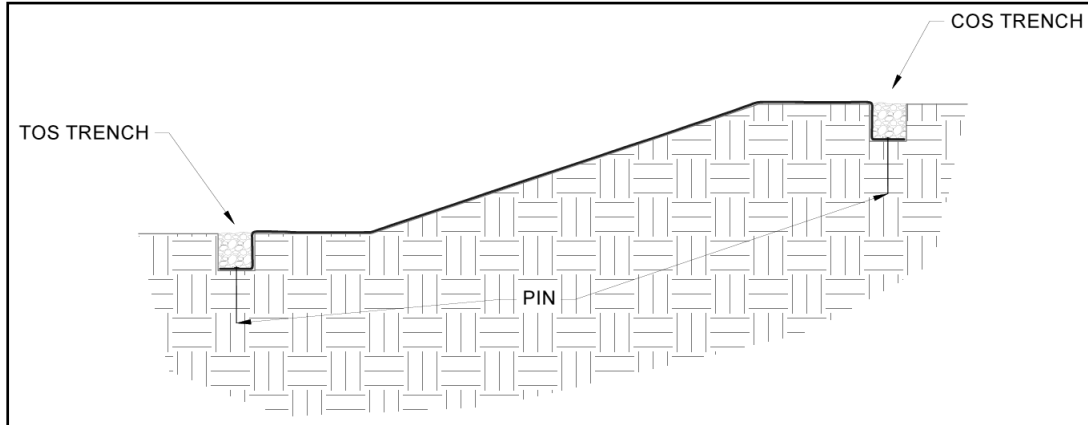

Figure 12: Crest of Slope (COS) Trench and Toe of Slope (TOS) Trench Complete
1. Begin the LANDLOK laydown process by starting with the downstream / downwind end of the site. To ensure proper pinning of the overlapped areas the proceeding roll width must be laid out before the current roll width can be pinned with exception to the final roll width. For straight sections of a slope, LANDLOK panel lengths should be long enough to construct COS and TOS trenches while also covering the surface of the slope being armored (Figure 12). Panel edges should rest approximately perpendicular to the slope center line. For best results, panels of LANDLOK should be continuous and free from seams or roll end overlaps that are parallel to the centerline of the slope. Panel edge overlapping should follow a pattern of placing each proceeding panel's edge overtop the previous panel edge, shingling the panels in the direction of the water flow or prevailing wind.
7. Secure LANDLOK with pins in the TOS trench. Suggested placement of pins for the TOS trench is along the bottom of the trench with pins on 12 in (300 mm) centers (Figure 12).
8. Backfill and compact the TOS trench. (Figure 12)